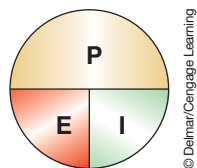

FIGURE 2-14 The mathematical formula for Watt's law.
Power (P) is the rate of doing electrical work. Power is expressed in **watts**. A watt is equal to 1 volt multiplied by 1 ampere. There is another mathematical formula that expresses the relationship between voltage, current, and power. It is simply: $P = E \times I$ (Figure 2-14). Power measurements are measurements of the rate at which electricity is doing work.